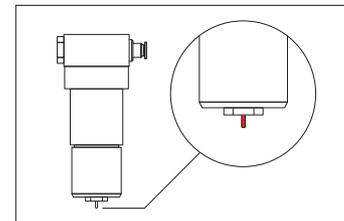

Abb. 8: Venting head
2. The water separator used in this system is a manually vented water separator and must be emptied regularly. This ensures that the drying always functions properly and that no water enters the system. In this way, failures of components, such as the valve block, can be avoided. Use the venting button (Fig. 8) on the bottom of the water separator for venting. When venting the water separator, use a small container or a highly absorbent material (e.g. microfiber cloth) to collect the condensation water.